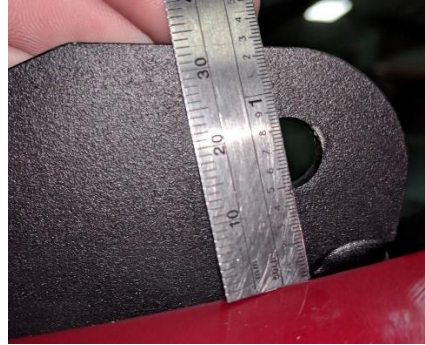

Figure 9
8. Using a ruler, set the height of the upper hole $\frac{1}{2}$ " above the closest portion of the fender profile. (**Figure 9**)